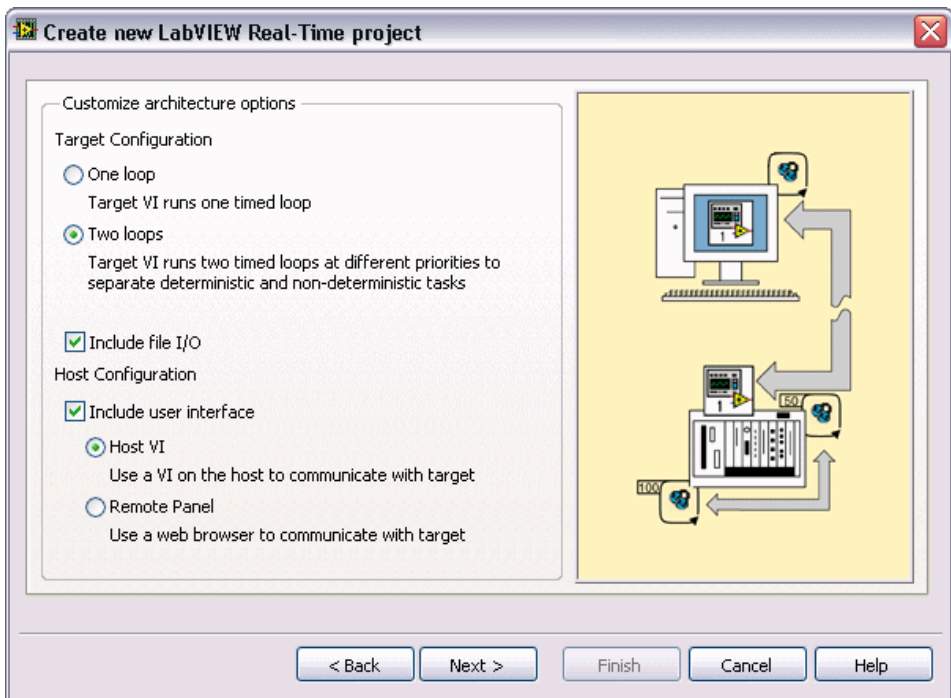

Figure 4. Configuring the Architecture Options
1. Select **Two loops**, as shown in Figure 4, to create an RT target VI with two Timed Loops.